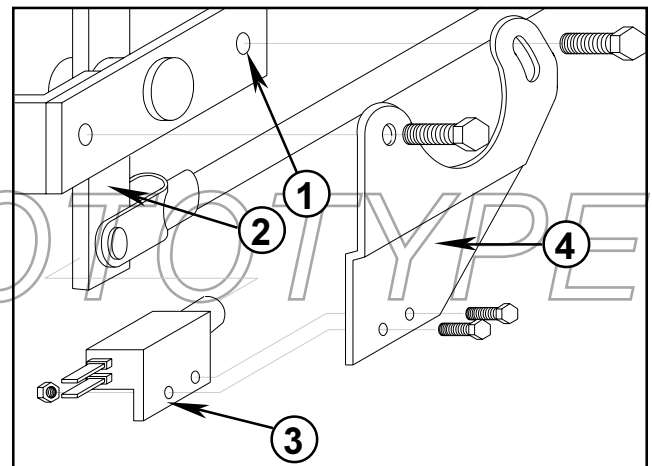

FIG. 16
3. Assemble the Brake Switch onto the Brake Switch Mounting Bracket using the (2) 3/16" x 3/4" hex hd. cap screws and lock nuts. Assemble Brake Switch Mounting Bracket onto Brake Arm Assembly by removing the (2) 5/16" hex hd cap screws on the side of the Brake Pedal Mount (Refer to MULTI-PRO® 1100 PARTS MANUAL - Brake Pivot Assembly Part No. 42754). Place the Brake Switch Mounting Bracket on the outside so that the Brake Arm activates the switch when the Brake Pedal is depressed and reinstall the hex hd cap screws as per FIG. 16. The Brake Switch should be adjusted so that the Electric Brakes engage when the Brake Pedal is depressed 1/8" - 1/4". This can be done by pivoting the Brake Switch Mounting Bracket and then tightening 5/16" hex hd screws.